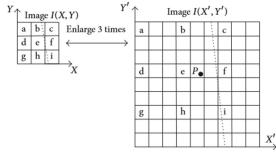

FIGURE 1: Nearest-neighbor interpolation method.
2.1. Nearest Neighbor Interpolation. Nearest-neighbor interpolation, otherwise known as the substitution method, uses the gray value of neighboring pixels to interpolate the gray value of new pixel points [4, 5]. This method's approach is to find the neighboring integer pixel points nearest to the noninteger pixel points. The gray value of these integer pixel points is then used to interpolate the gray value of new pixel points (shown in Figure 1).
In Figure 1 we can see the enlarged image (x', y') of the pixel P ; then, with conversion back to the original image $I(x, y)$, P is interpolated between the pixel e and f . Nearest-neighbor interpolation algorithm is to calculate the P point in the image $I(x, y)$ and its surrounding pixels e, f, h , and i the distance and then choose the shortest distance between the gray values of the pixels, as their gray values. The enlargement process using the nearest-neighbor interpolation algorithm will be encounter with the problem of blocking the effect.